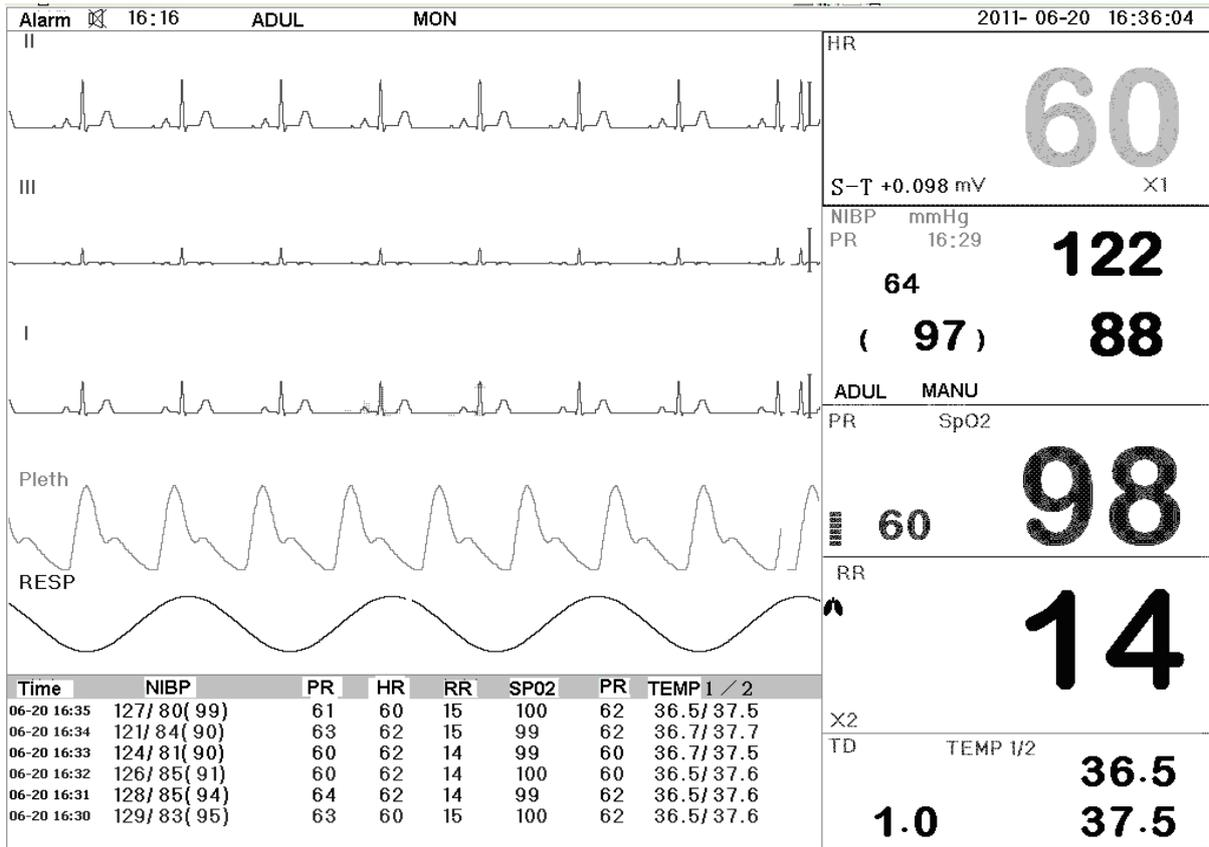

Figure 4.2 Main Screen
**Step 5:** If you have finished adjusting the date and time, press the knob and rotate the knob to move the cursor to “Save”, press it to save the settings. Then move the cursor to “Exit”, press it to exit the date and time setting screen, meanwhile enter into the main screen shown in Figure 4.2.
The system is initialized and enters into Main Screen where monitoring and system operation are performed. (as shown in Figure 4.2)
Press the Navigation Knob in the main screen as shown in Figure 4.2, the operating area shows the mode selection screen, as shown in Figure 4.14.